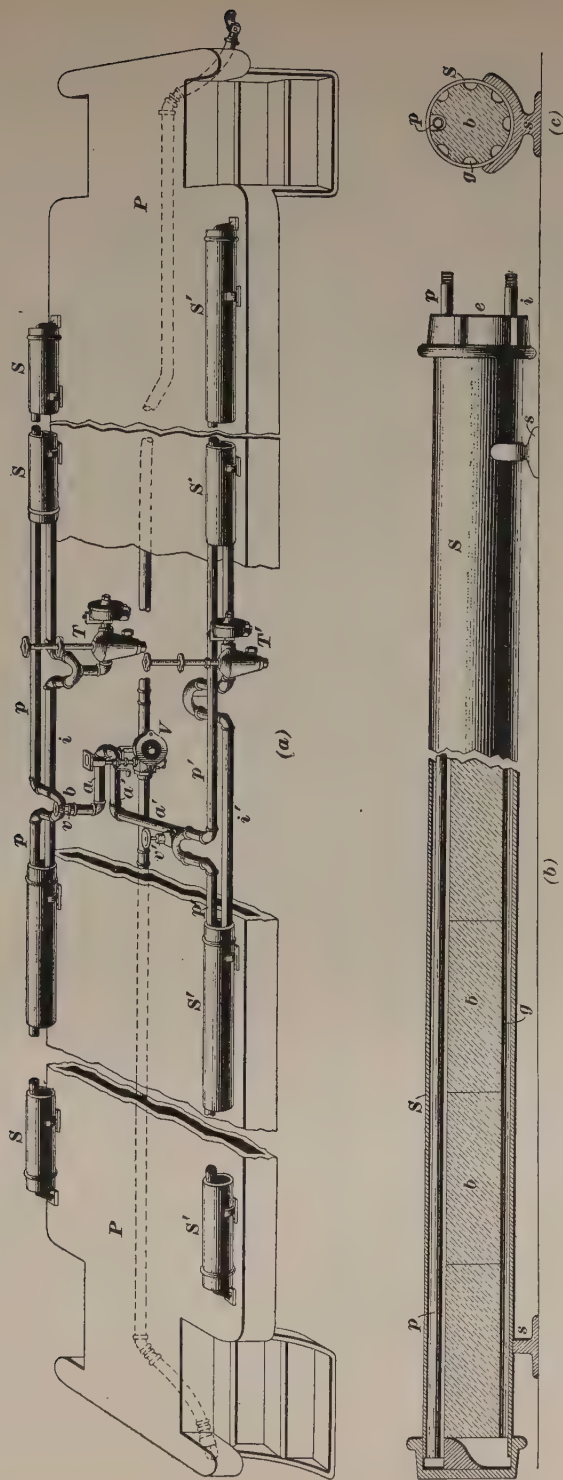

FIG. 17
39. In the direct-steam, terra-cotta, storage-heater equipment, illustrated in Fig. 17, the pipes are arranged practically the same as in Fig. 10, except that after the lengths a, a' , leading from the train-pipe valve V , have passed the steam valves v, v' , they couple into a loop, as shown, from which loop the pipes p branch off on one side of the car and p' on the other. These pipes run into the storage heaters S, S' , of which there are four in a car. This storage heater is an iron pipe, usually a 5-inch iron tube, inside of which are terra-cotta bricks; these are about 12 inches long, and are a snug fit. The two lengths of pipe p are not continuous as in Fig. 10; instead, the upper